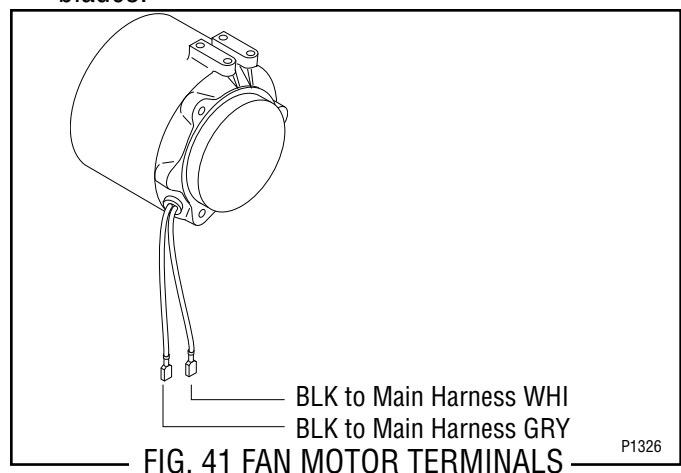

FIG. 41 FAN MOTOR TERMINALS
9. Install silencer (4) on new motor assy.
10. Install fan (3) on new motor assy.
11. Install speed nut (2) on new motor assy.
12. Using three #8-32 thread forming screws secure new motor assy to shroud/mount (6).
13. Using three #6-32 thread cutting screws secure new motor and shroud/mount to the condenser shroud (7).
14. Using two #8-32 locking screws secure condenser shroud and fan assy (1) to the chassis base.
15. Using four #8-32 crimpite screws secure the condenser shroud and fan assy (1) to the condenser.
16. Refer to Fig. 41 and reconnect the leads on the new motor to the dispenser wiring harness.